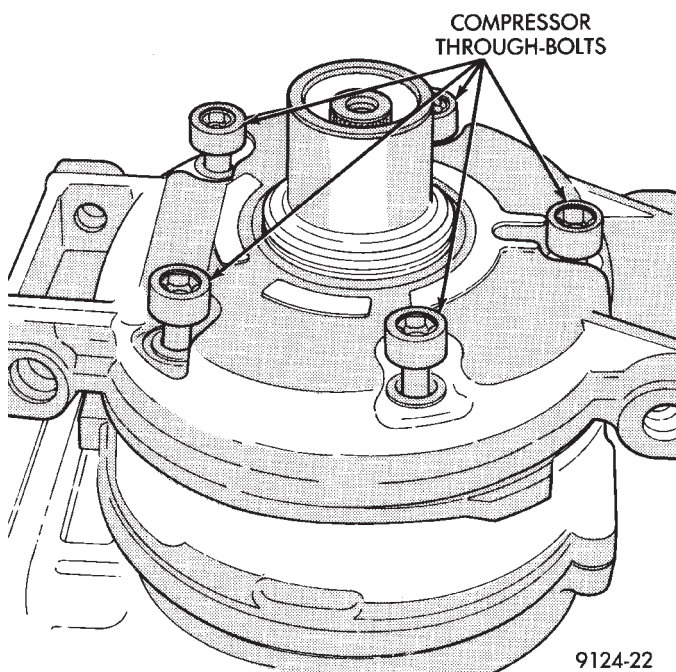

Fig. 1 Compressor Through-Bolts
- (1) Discharge the refrigerant system.
- (2) Remove A/C compressor.
- (3) Remove compressor clutch/coil assembly.
- (4) Remove compressor through-bolts (Fig. 1).